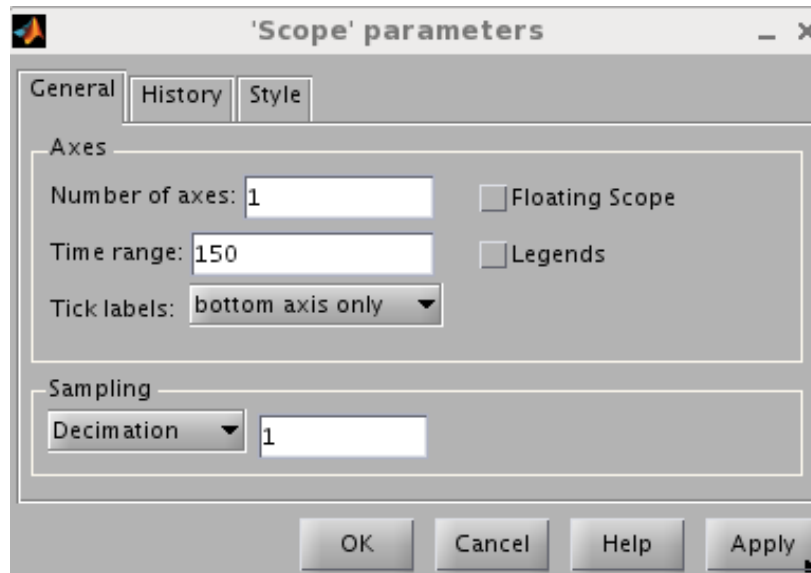

Figure 10: Setting the Scope Parameters.
10. In the Scope Parameters (refer to Figure 10), specify: